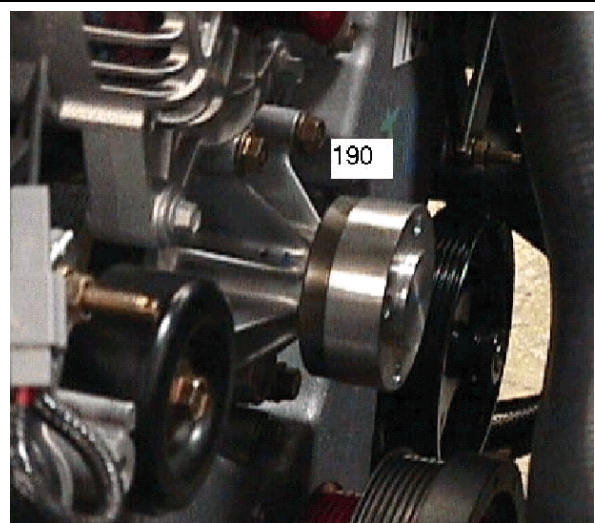

Figure 9
18. For models manufactured in the second half of the 2001 model year through the 2004 model year, install the water pump pulley spacer, making sure the holes are properly lined up (FIGURE 9).